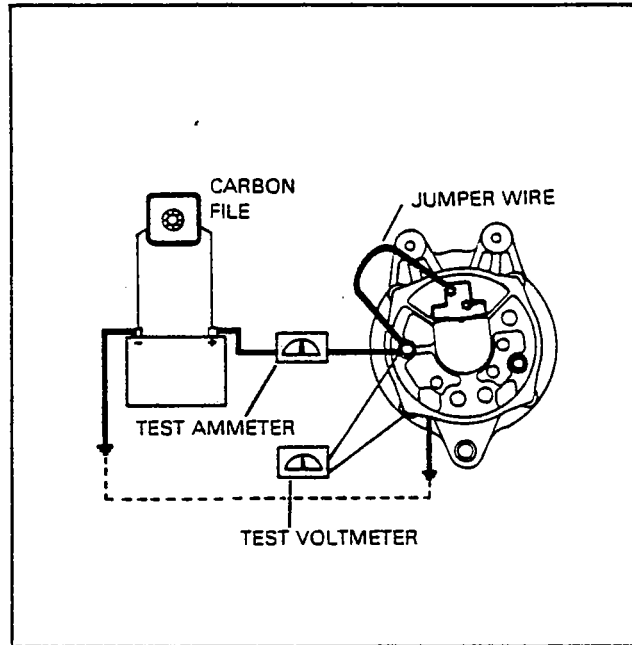

Figure 24-13. Testing Alternator
1. Wiring connections for bench testing the alternator are shown in Figure 24-13. Refer to the individual specification Chart 2403 for output test figures. Adjust the carbon pile if necessary, to obtain the specified voltage.
Always refer to the wiring diagram (refer to Figure 24-13) when installing the alternator or testing the alternator.